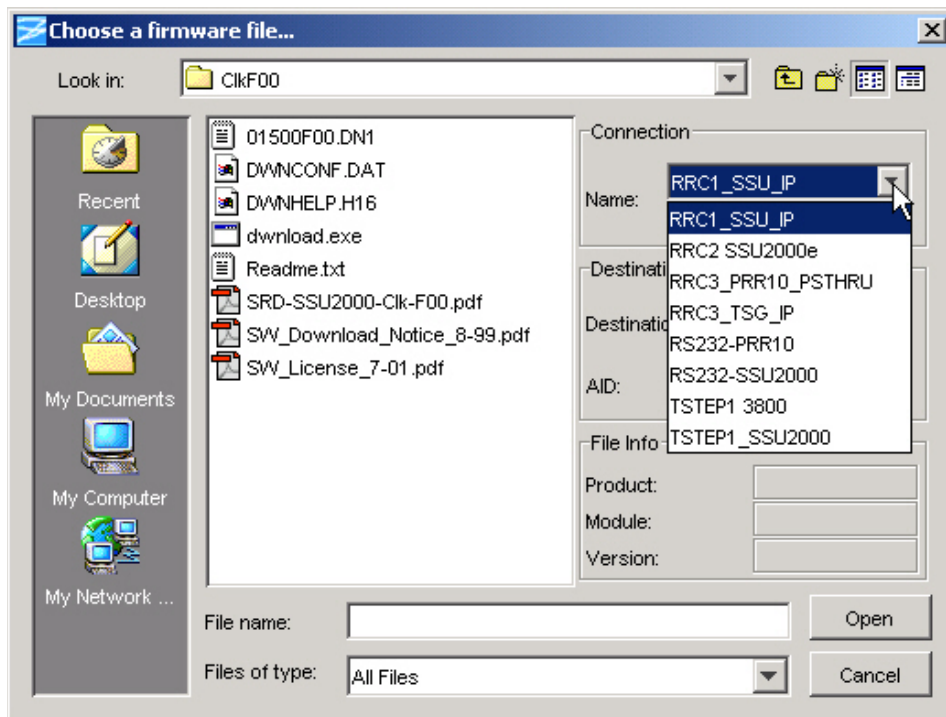

Figure H-13. Selecting the SSU-2000 to be Upgraded
12.Ensure that the name of the SSU-2000e you want to upgrade appears in the Connection Name drop-down list, as shown in Figure H-13.